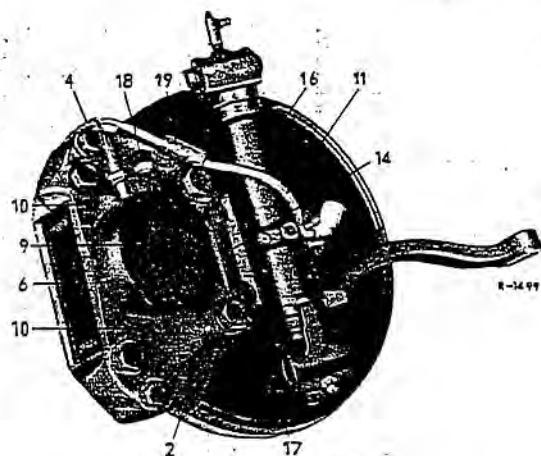

Fig. 42-7/16
b) Make sure that on the 1st and 2nd version Girling brake caliper the connecting line (4) is properly laid. If a 1st or 2nd version Girling brake caliper is replaced by a 3rd version caliper, the brake line (11) must also be replaced since on the 3rd version caliper the brake line is connected to the inner pressure cylinder (Fig. 42-7/15).